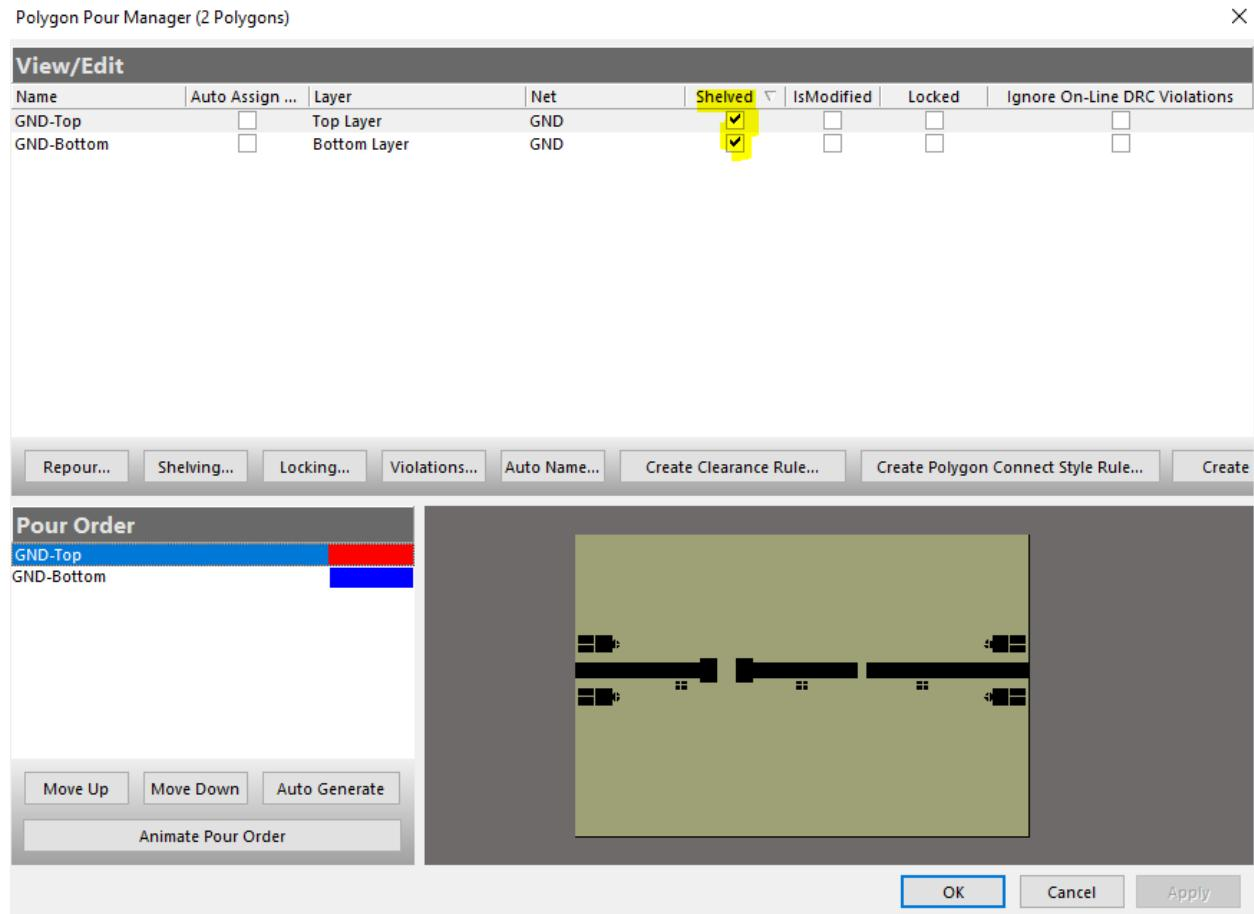
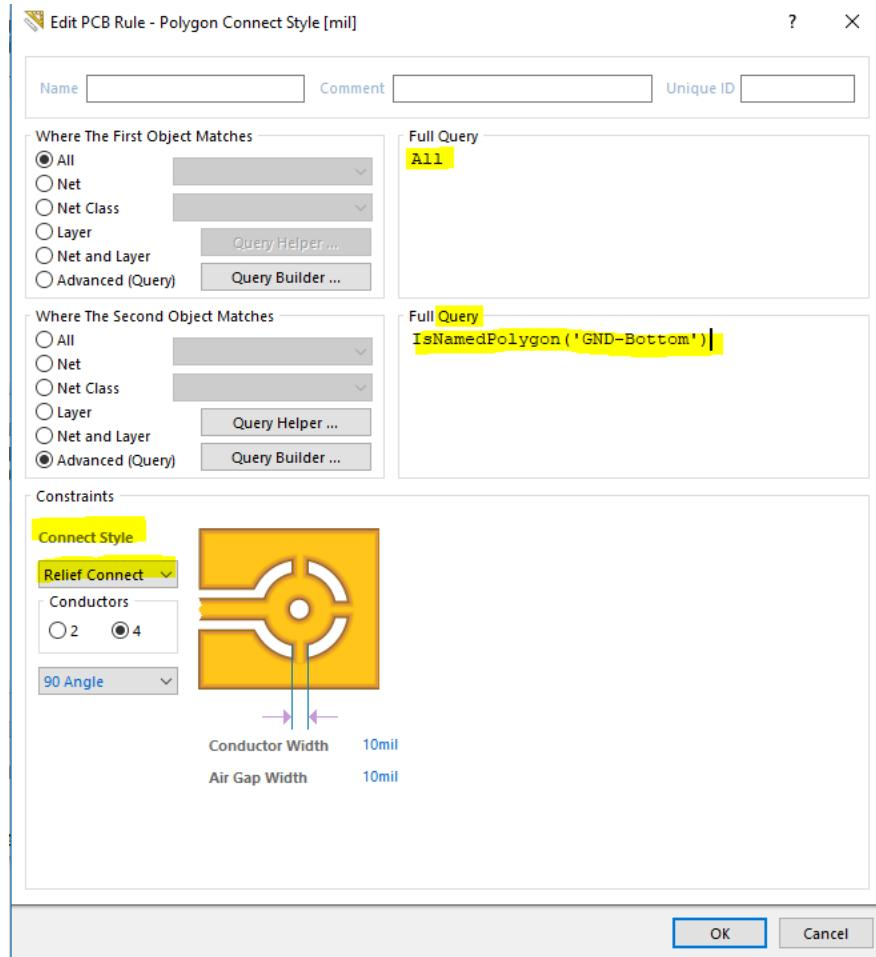

Figure 89: Altium PCB GDP Polygon Manager Dialog.
Figure 90: Altium PCB GND Polygon Connection Style Rule Dialog.
52. After polygons are placed you want to get it way temporarily because it prevents you from moving components. This can be done multiple ways but the polygon manager is the way that gives you the most flexibility. The polygon manager can be opened in menu bar **Tools** → **Polygon Pours**→ **Polygon Manager** which opens the **Polygon Manager** dialog shown in Figure 89. To shelf the polygons check the highlighted Shelfe boxes and press apply. Furthermore, you can use the polygon manager to change the rule for thermal relieves on pads. This can be done by press the button Create Polygon Connection Style Rule... which opens the Edit PCB Rule - Polygon Connect Style, as shown in Figure 90. This dialog lets you change the Connect Style which is now set to Relief Connect but you can set it to Direct Connector No Connect. Furthermore, There are Query that you can write an two are already generated for you. First Object Matches is set to All objects and Second Objects Matches is set to IsNamedPolygon('GND-Bottom'). This means the rule will be valid for all objects that are in the polygon named GND-Bottom.